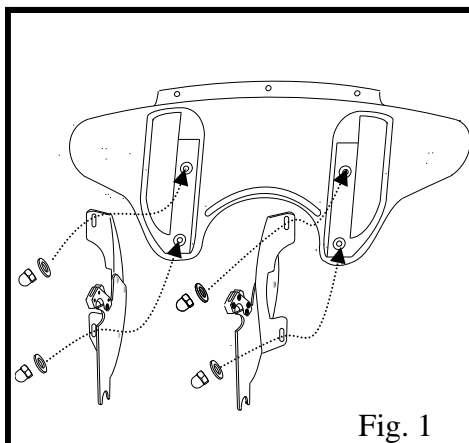

Fig. 1
2. Attach the mounting plates to the bolts on the fairing with the washers and acorn nuts provided. (See fig. 1)